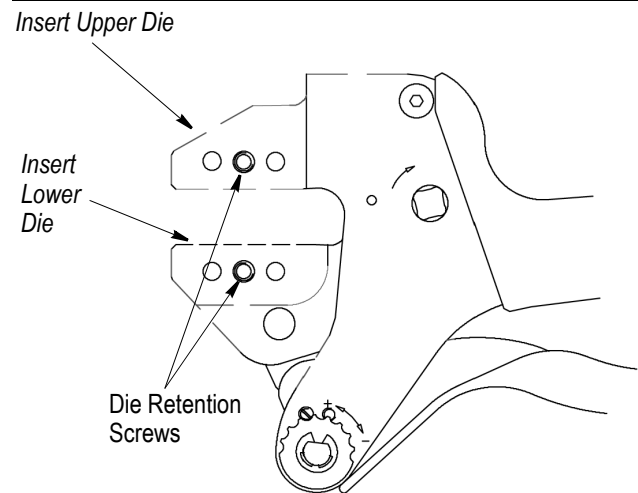

Figure 2
**3.1. Installation of Shouldered Dies** (Figure 2)
Die assemblies with center contact crimp sections should be installed with the center contact crimp section toward the front of the tool jaws as shown in Figure 2. If indicated otherwise in other instructions, follow the specific die requirements demonstrated in that document.